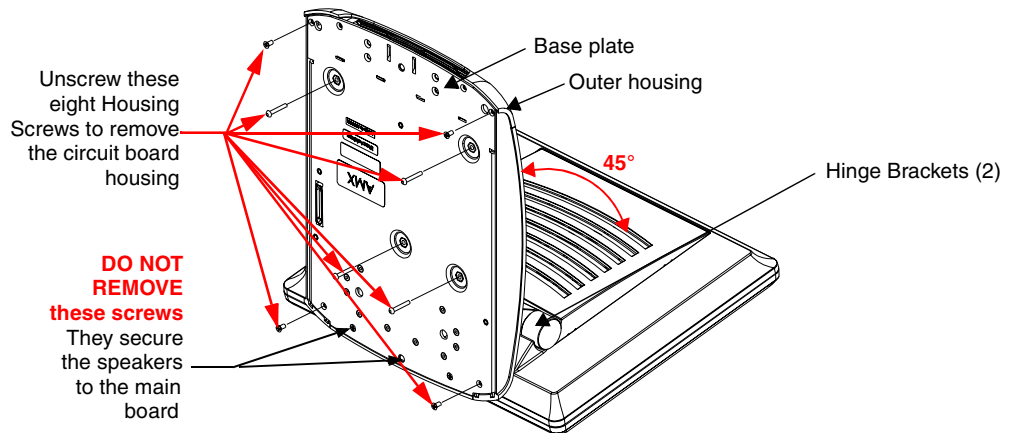

FIG. 16 Location of the attachment screws underneath an NXT panel base
- Carefully detach all connectors from the rear of the touch panel and then gently place the touch panel LCD facedown onto a soft cloth to expose the under-side of the base (FIG. 16). This step helps prevent scratching of the LCD.
3. With the components securely installed, tilt the LCD back to a 45° and gently slide-on the outer housing (towards the LCD) until the it is aligned over the installation holes and the tilt bracket prevents any further forward movement (FIG. 16).
6. Insert and secure the eight Housing Screws (using a grounded Phillips-head screwdriver) into their respective locations (FIG. 16).